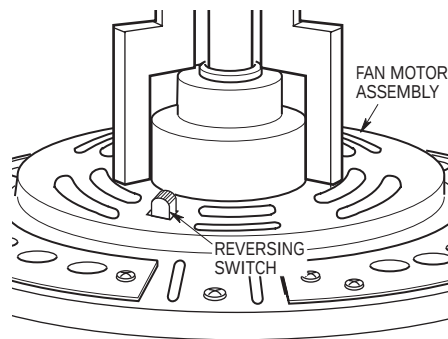

Figure 28
- 5. If airflow is desired in the opposite direction, turn the fan off with the FAN OFF button and wait for the blades to stop turning. Then slide the reversing switch, located on top of the fan motor assembly, to the opposite position (Figure 28) and turn the fan on again. The blades will turn in the opposite direction and reverse the airflow.